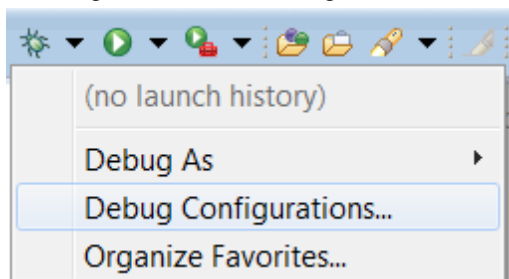

Figure 2.17 Debug options
1. Click the drop-down menu for the debug icon, as shown in Figure 2.17.